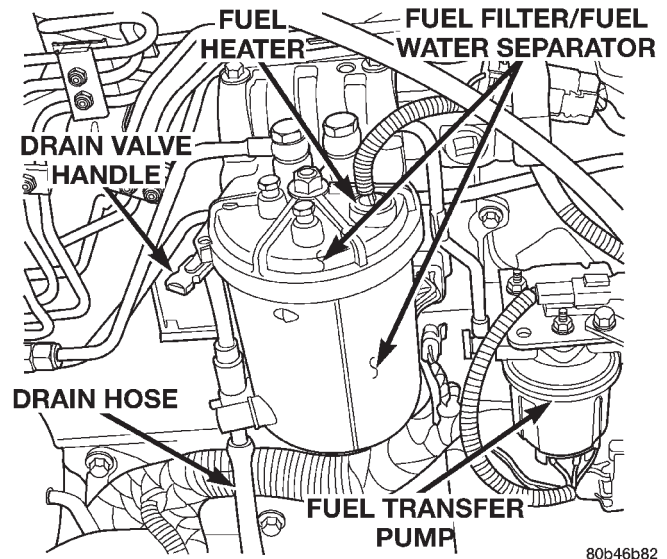
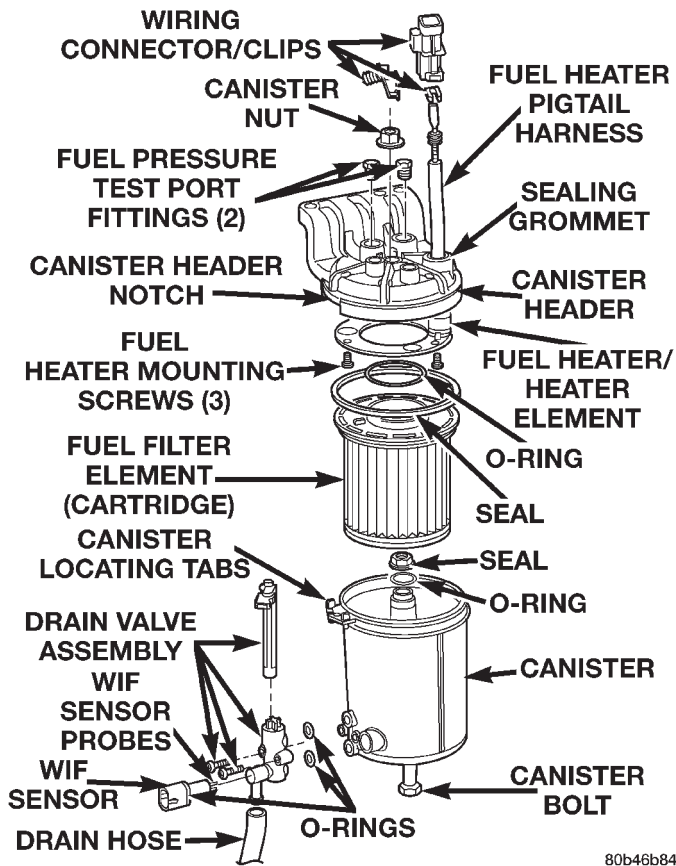
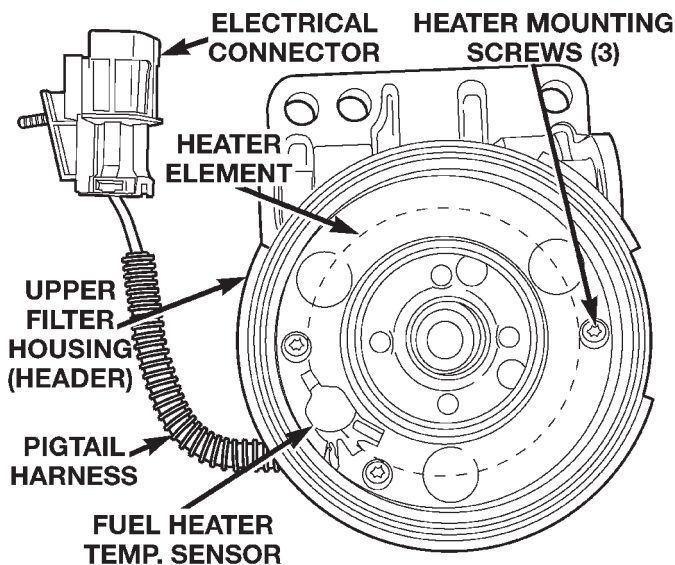

Fig. 46 Fuel Filter/Water Separator/Drain Hose Location
Fig. 48 Fuel Filter/Water Separator Components
Fig. 49 Fuel Heater Mounting Screws (Bottom View)
The fuel filter/water separator assembly is located on left/rear side of engine above starter motor (Fig. 46). The assembly contains the fuel filter cartridge, Water-In-Fuel (WIF) sensor, and fuel heater.
(1) A drain hose is located at bottom of drain valve (Fig. 48). Place drain pan under drain hose.
(5) Remove drain hose at drain valve (Fig. 46).
(6) Disconnect Water-In-Fuel (WIF) sensor electrical connector at sensor. The WIF sensor is located at side of filter canister (Fig. 48).
- (7) Loosen filter canister nut at top of header (Fig. 48) while lowering canister assembly from header.
- (8) Remove and discard seals and center o-rings (Fig. 48).
- (9) Remove filter element (cartridge) from canister.
- (10) Remove WIF sensor and its o-ring seal from canister (Fig. 48).
(11) Inspect WIF sensor probes (Fig. 48). Carefully clean contaminants from sensor probes with a cloth if necessary. Replace sensor if probes are covered with contaminants and will not clean up.
(12) **Fuel Heater:** The fuel heater is located inside fuel filter housing (header) (Fig. 46), (Fig. 48) or (Fig. 49). The heater mounting plate, heating element, temperature sensor and wiring harness are serviced as one assembly.
(a) Disconnect heater pigtail harness electrical connector (Fig. 49) from main engine wiring harness near upper/rear of filter.
(b) The plastic electrical connector (Fig. 49) at end of 2-wire pigtail harness will have to be removed from wiring harness before attempting to pass harness through filter header.
(d) Remove clip (Fig. 48) retaining wires to connector.
(f) Remove 3 fuel heater mounting screws (Fig. 48) or (Fig. 49).
(g) Press down on heater sealing grommet (Fig. 48) to remove heater from filter canister header.
(b) Install 3 fuel heater mounting screws (Fig. 49) or (Fig. 48) and tighten to 2–3 N·m (15–20 in. lbs.) torque.
(d) Connect heater pigtail harness electrical connector (Fig. 49) to main engine wiring harness.
- (8) Load filter into canister.
- (9) Fill filter canister with clean diesel fuel.
- (10) Apply a light film of clean diesel oil to all seals.
- (11) Position canister assembly to canister header. Note locating tabs on canister should align into notch on canister header (Fig. 48).
- (12) Install canister nut and tighten to 14 N·m (10 ft. lbs.) torque.
- (13) Connect electrical connector to WIF sensor.
- (14) Connect drain hose to bottom of drain valve.
- (15) Start engine and check for leaks.